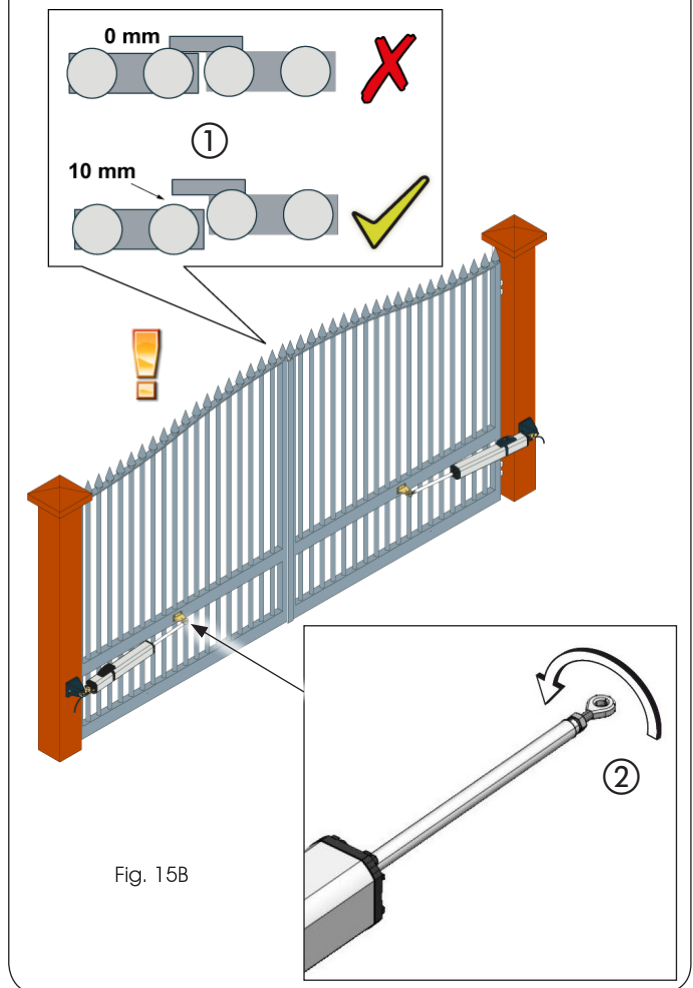

Fig. 15B
**!** \* If the integrated closing stops are used, and the double leaf application with overlap has been installed, avoid the situation where, in the closed position, leaf 1 presses on leaf 2 (Fig. 15b ref. ①). To do this, adjust the joint, screwing it better into the stem, leaving a clearance between the two leaves of about 10mm (Fig. 15b ref. ②),